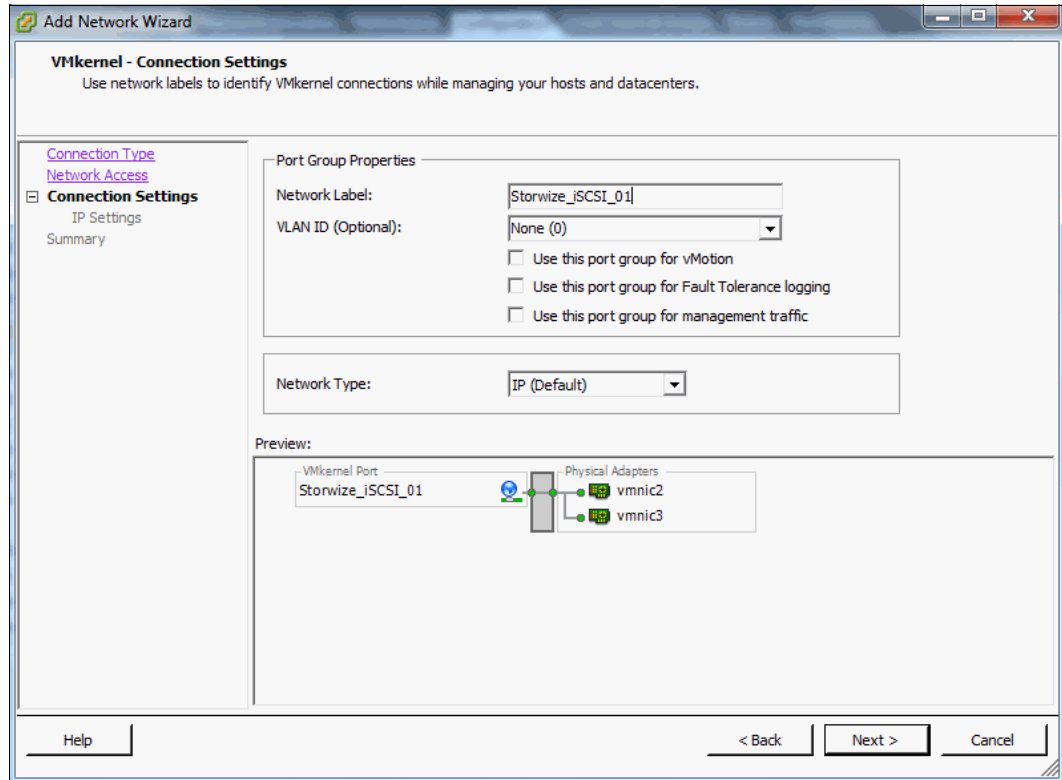

Figure 4-20 Configuring a VMkernel port on the new vSwitch
- The wizard then prompts you to create a single VMkernel port within the new vSwitch, as shown in Figure 4-20.